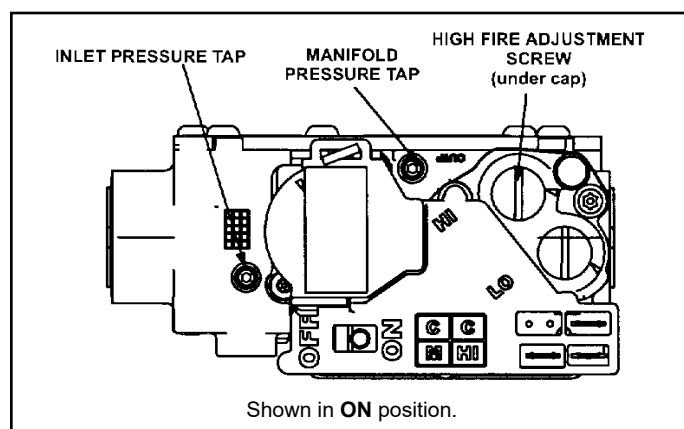

Figure 34. White Rodgers Gas Valve
See Figure 34
6. Move gas valve switch to OFF position. Do not force. See Figure 34.
7. Wait five (5) minutes to clear out any gas. If you then smell gas, **STOP!** Immediately call your gas supplier from a neighbor's phone. Follow the gas supplier's instructions. If you do not smell gas go to next step.
8. Move gas valve switch to ON position. Do not force. See Figure 34.
4. Move gas valve switch to OFF position. Do not force. See Figure 34.
An inlet post located on the gas valve provides access to the supply pressure. See Figure 34. Back out the 3/32 hex screw one turn, connect a piece of 5/16 tubing and connect to a manometer to measure supply pressure. See Table 27 for supply line pressure. Tighten hex screw after measurements have been taken.
1. Connect test gauge to manifold pressure post tap (Figure 34) on gas valve.
4. If necessary, make adjustments. Figure 34 shows location of high fire adjustment screw.